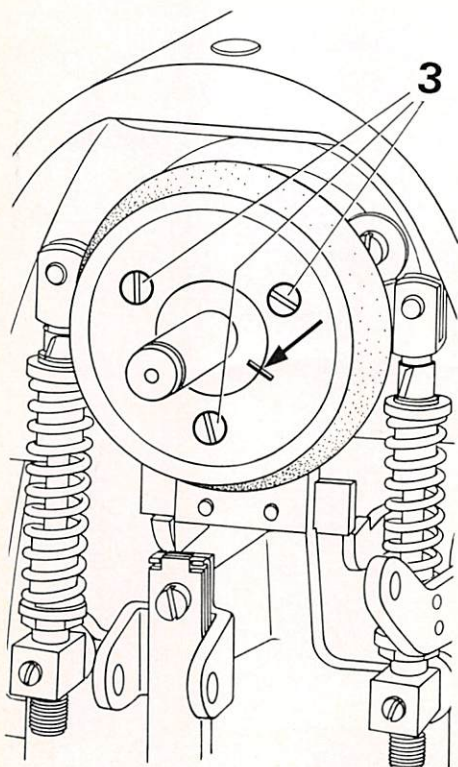

Fig. 2
**2. Adjusting the drive pulley on the arm shaft (Figs. 2 and 2a)**
- 2.5. Replace the clutch disc on the drive pulley so that the marks on both are in line, and secure it in position with screws **3** Fig. 2).